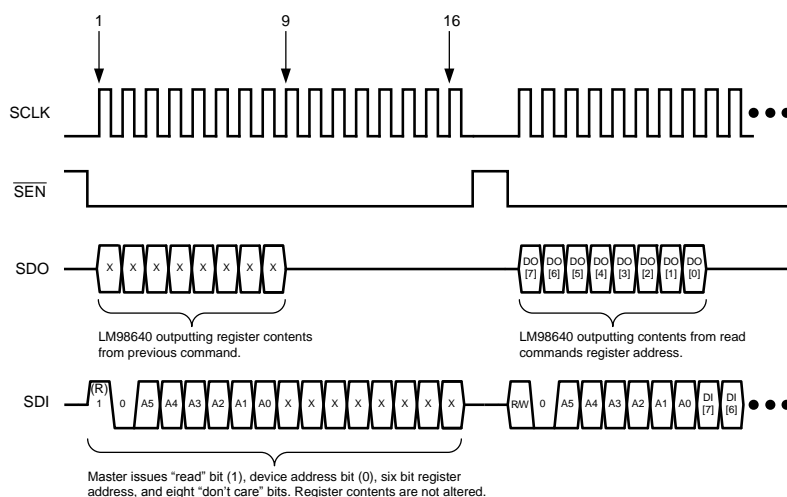
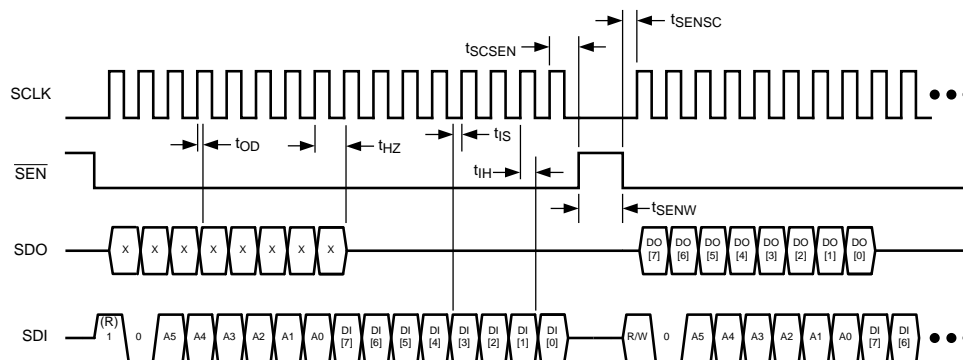

Figure 29. Four-Wire Serial Read
Figure 30. Serial Interface Specification Diagram
To read to the serial registers using the four wire interface, the timing diagram shown in Figure 29 must be met. Reading the registers takes two cycles. To start the first cycle, $\overline{\text{SEN}}$ is toggled low. At the rising edge of the first clock, the master should assume control of the SDI pin and begin issuing the read command. The read command is built of a "read" bit (1), device address bit (0), six bit register address, and eight "don't care" bits. SDI is clocked into the LM98640 at the rising edge of SCLK. $\overline{\text{SEN}}$ is toggled high for a delay of at least t_{SENW} (see Figure 30). The second cycle begins when $\overline{\text{SEN}}$ is toggled low. The LM98640 assumes control of the SDO pin during the first eight clocks of the cycle. During this period, data is clocked out of the device at the rising edge of SCLK. The eight bit value clocked out is the contents of the previously addressed register. The next command can be sent on the SDI pin simultaneously during this second cycle. When $\overline{\text{SEN}}$ toggles high, the register is not written to, but its contents are staged to be outputted at the beginning of the next command.